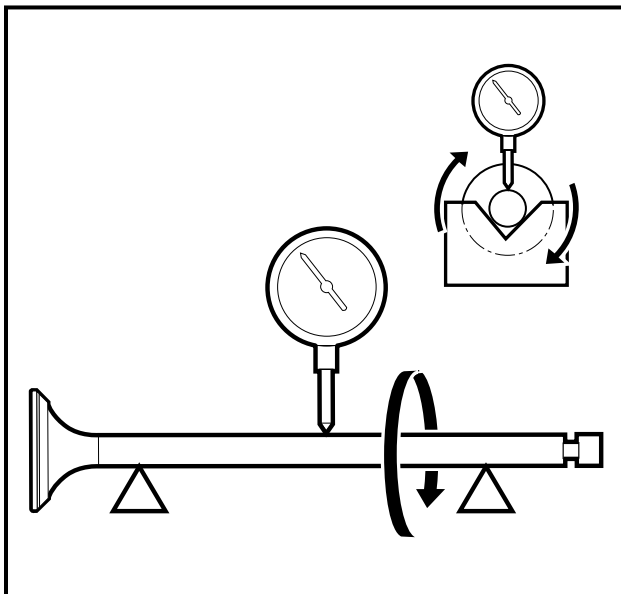

Figure 3-25 Measure Valve Stem Bend
1. Support the valve in V-blocks at each end of the stem (**Figure 3-25, Page 3-14**).